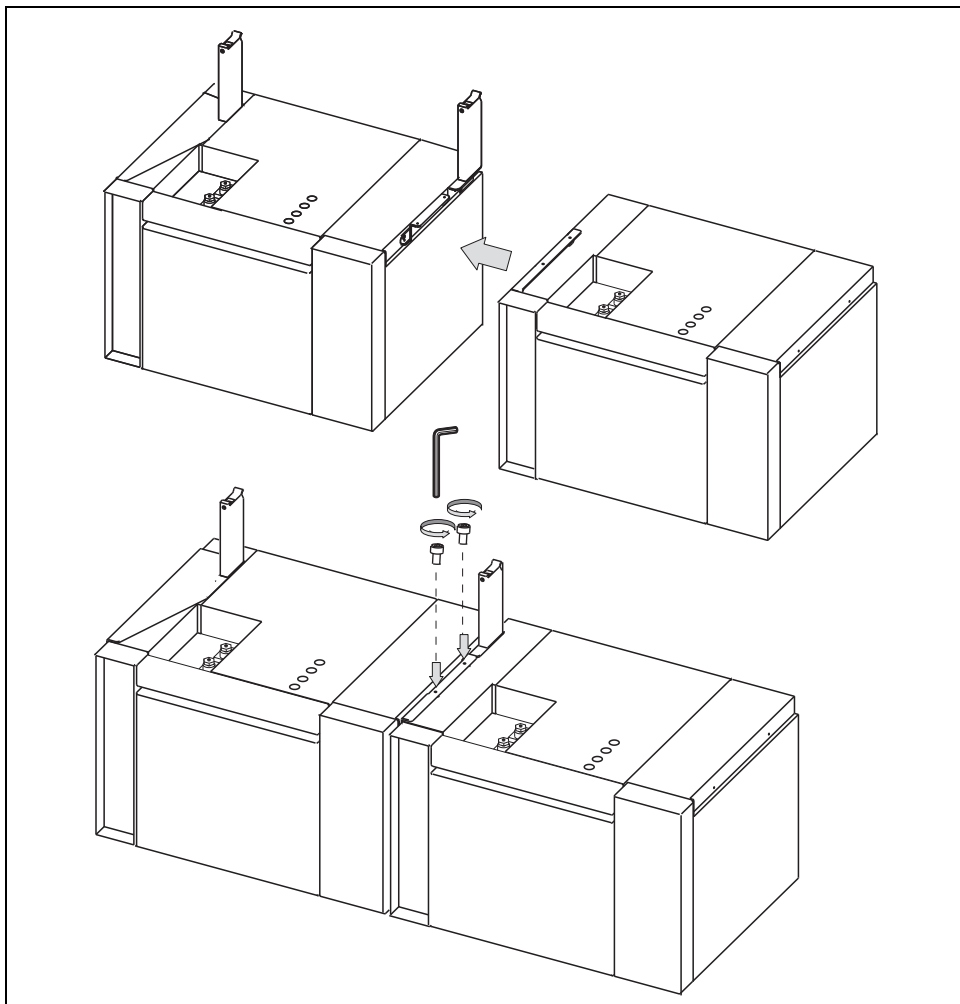

Figure 4-8. Agilent 5890 GCs Placing
7. Move the second GC beside the first one. Align the right sampler support of the first GC and the spacer plate of the second GC as shown in Figure 4-8, having care to fit the corresponding fixing holes.